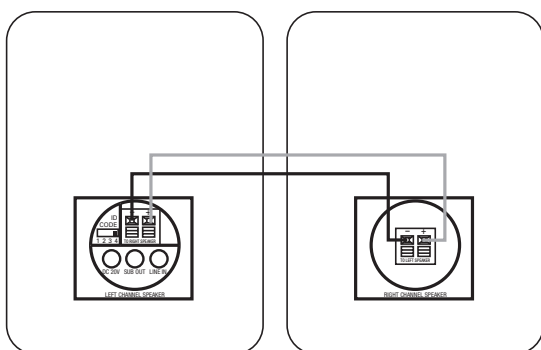

Figure 3.
See Figure 3. Please note that the speaker wire supplied features a polarity stripe to help distinguish its two conductors. Use this polarity stripe to ensure that you are connecting the positive (+) terminal on one speaker to the positive (+) terminal on the other, and the negative (–) to the negative (–). It does not matter whether you use the striped conductor for connecting the positive (+) terminals or the negative (–) terminals.
Step 3. Connect the speaker wire (included) to the push terminals on the active speaker ⑥ and the push terminals on the rear of the passive speaker ⑩, as shown in Figure 3. Please note that the speaker wire supplied features a polarity stripe to help distinguish its two conductors. Use this polarity stripe to ensure that you are connecting the positive (+) terminal on one speaker to the positive (+) terminal on the other, and the negative (–) to the negative (–). It does not matter whether you use the striped conductor for connecting the positive (+) terminals or the negative (–) terminals.
Step 4. Plug the transmitter module ⑫ and active speaker ⑦ into the wall outlet, using the correct power supply and power cord. Make sure the transmitter’s antenna ⑪ is extended upwards.
Step 5. Make sure the ID code setting on the transmitter ⑬ is set to the same setting as that on the active speaker ⑤. See Page 8 of this manual for more information on ID codes. If necessary, configure your receiver to activate the preamp level outputs for the main/front channels (consult your source’s owner’s manual for specific instructions).
Step 3. Connect the speaker wire (included) to the push terminals on the active speaker ⑤ and the push terminals on the rear of the passive speaker ⑩, as shown in Figure 3. Please note that the speaker wire supplied features a polarity stripe to help distinguish its two conductors. Use this polarity stripe to ensure that you are connecting the positive (+) terminal on one speaker to the positive (+) terminal on the other, and the negative (–) to the negative (–). It does not matter whether you use the striped conductor for connecting the positive (+) terminals or the negative (–) terminals.
Step 4. Plug the transmitter module ⑫ and active speaker ⑦ into the wall outlet, using the correct power supply and power cord. Make sure the transmitter’s antenna ⑪ is extended upward.